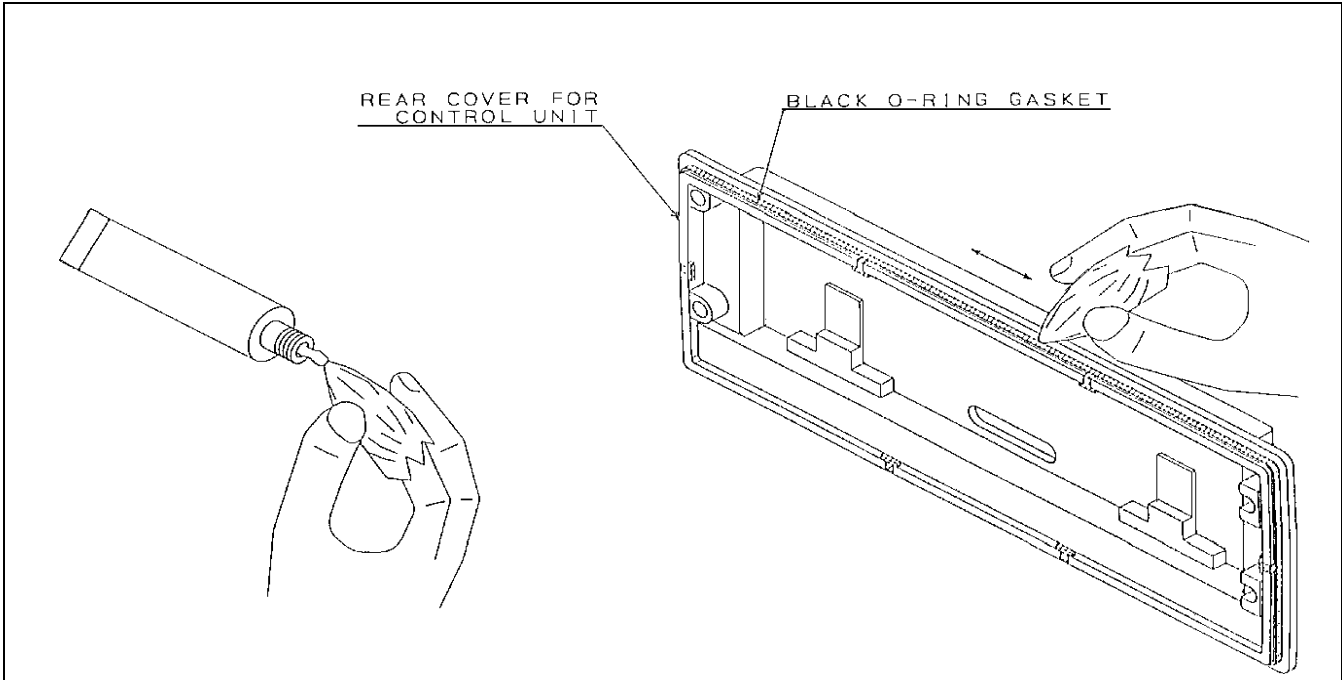

Figure 1A - Front Mount Control Unit "O-Ring" Lubrication
2. Apply proper amount of the silicone grease to a cloth as shown in Figures 1A and 1B.
3. Put the silicon grease on the black O-Ring gasket, covering the surface of the gasket evenly (see Figure 1A and 1 B).